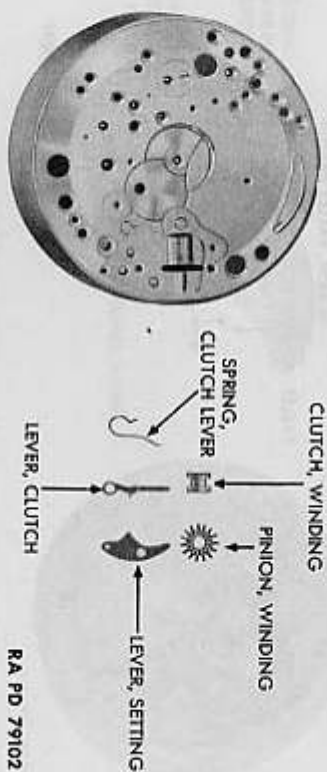

Figure 177 — Bulova Wrist Watch — Winding and Setting Assembly Removed
m. Remove Winding and Setting Assembly (fig. 177). Hold clutch lever spring in place and lift off clutch lever and clutch lever spring. Remove clutch and winding pinion. Invert movement on the movement block and unscrew the setting lever screw. Lift off the setting lever.
- j. Replace Winding and Setting Assembly (fig. 177). Place the setting lever on its screw and cover the end of the index finger with watchmakers' paper. Hold the setting lever in place, turn the movement up on its edge, and secure the setting lever screw. Replace the winding pinion; replace the clutch matching the teeth with those of the pinion. Replace the clutch lever spring and clutch lever.